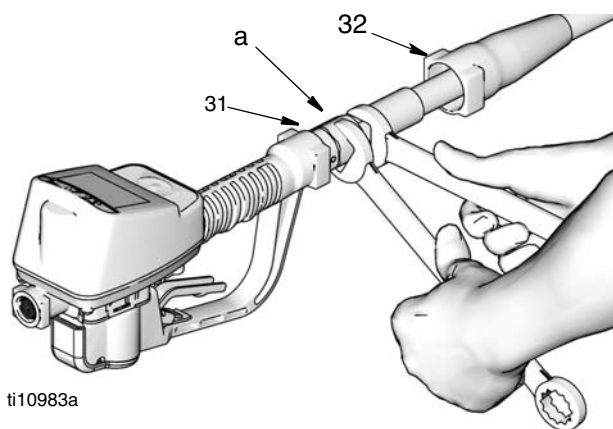

FIG. 4
Installing Meter (FIG. 4
2. Slide the swivel boot (32) back, over the hose, small end first, to access the swivel fitting (a).
3. Apply thread sealant to the male threads of the hose fitting. Thread the hose fitting into the meter swivel (31). Use two wrenches to tighten securely (FIG. 4).